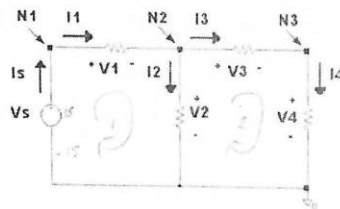

Figure 2.
3. Using 10K ohm resistors, build the circuit in Figure 2 on your protoboard. Take care to lay out your circuit neatly, using wires of proper length where needed. Before connecting power to your circuit, adjust your power supply to 15 volts. Have an instructor look over your circuit before you apply power to your circuit.